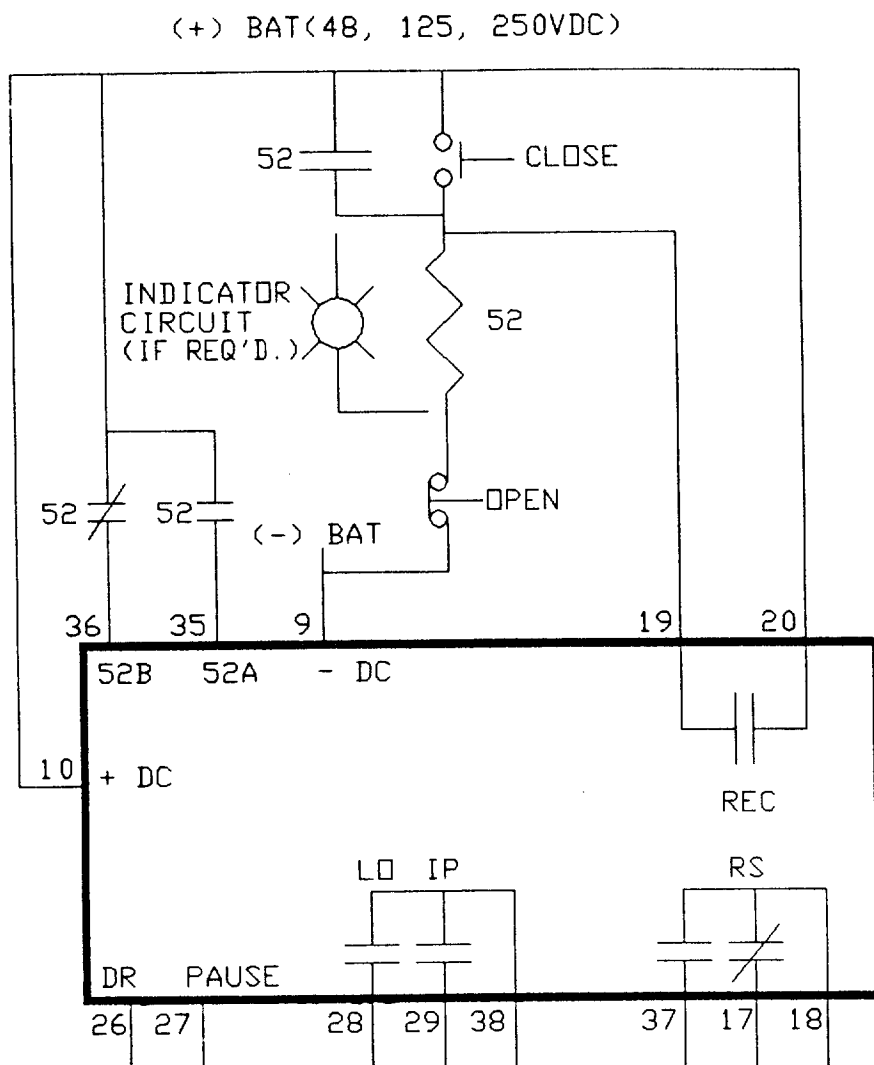

Figure AT-8(0285A5383) DDP Automatic Recloser Test Connections
1. Connect the DDP as per figure AT-8 and make sure SW1 (behind the front nameplate and bottom right, see Figure CS-2 in the CALCULATION OF SETTINGS section) is in position 2 before
1. Connect the DDP as per Figure AT-8.
1. Connect the DDP as shown in Figure AT-8 and power up the unit with 52A open and 52B closed.